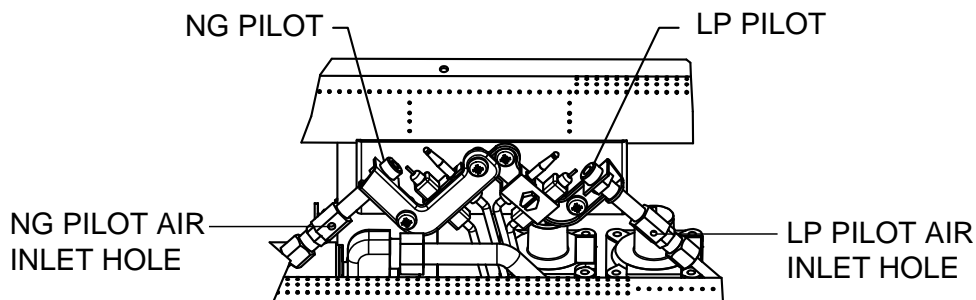

Fig. 32 - Pilot Inlet Air Hole
6. In case any large clumps of dust have now been pushed into the burner repeat steps 3 and 4. Clean the pilot assembly also. A yellow tip on the pilot flame indicates dust and dirt in the pilot assembly. There is a small pilot air inlet hole about 2" from where the pilot flame comes out of the pilot assembly (see Figure 32 depending on model). With the unit off, lightly blow air through the air inlet hole. You may blow through a drinking straw if compressed air is not available.